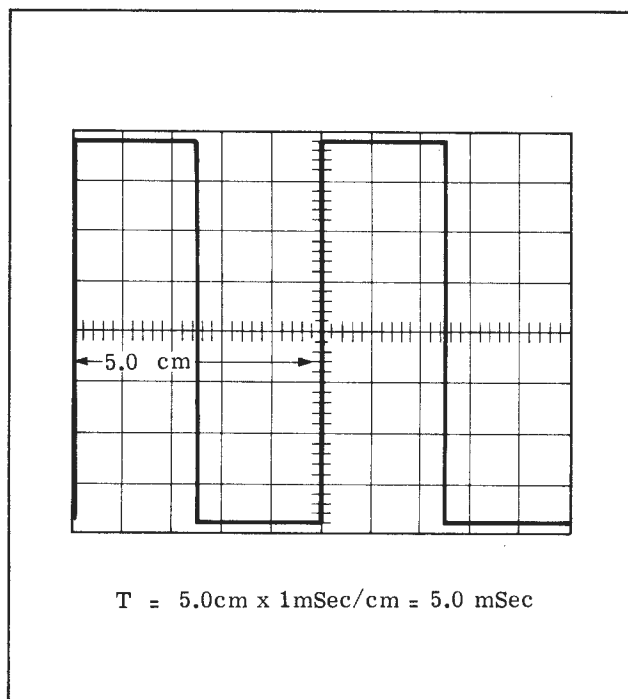

Figure 4-2. Measurement of Period Duration
(1) Adjust the VERTICAL VOLTS/cm and VERT POS control to give a trace centered about the horizontal centerline of the graticule.
(2) Adjust the sweep rate and trigger controls to obtain one or more cycles of the waveform on screen.
(3) Using the HORIZ POS control, position the waveform so that it crosses the junction point of a vertical graticule line on the left-hand side of the screen and the center horizontal graticule line. Note the direction in which the waveform crosses the center horizontal graticule line.
(4) Measure the distance (in centimeters) from the junction point described above to where a comparable point of the next cycle of the waveform again crosses the center horizontal graticule line in the same direction as in 3. above.
(5) Multiply this distance by the setting of the HORIZONTAL TIME/cm switch to obtain the time duration of the period (T). This technique is demonstrated in figure 4-2.